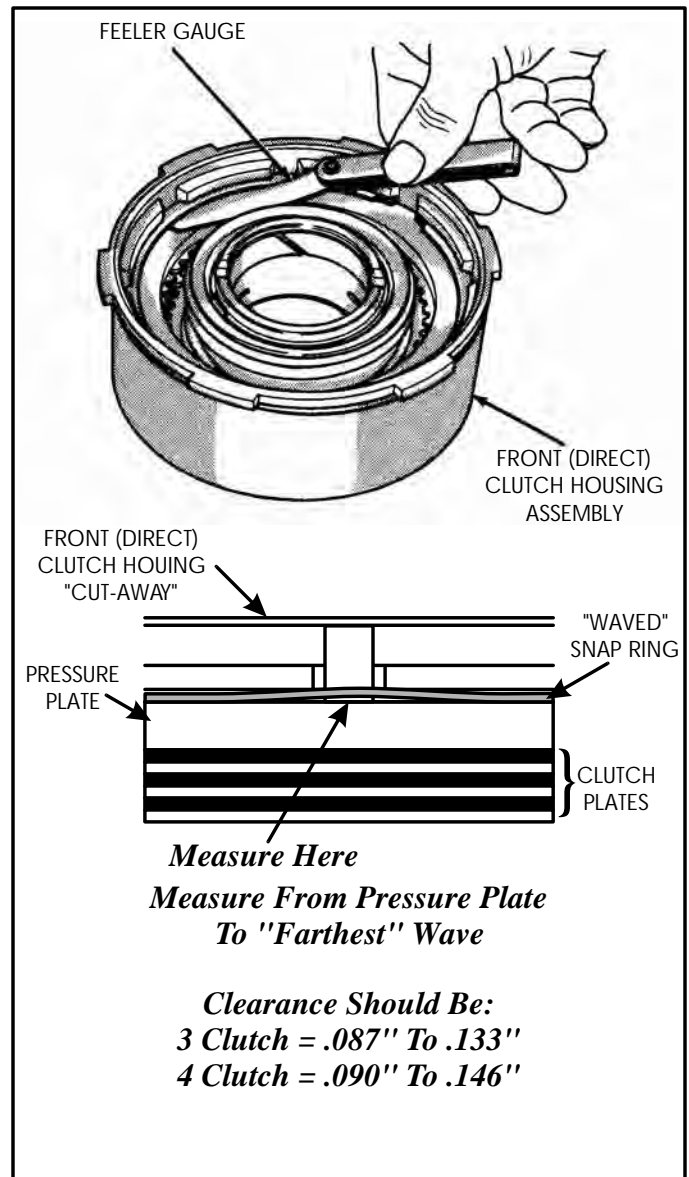

Figure 72
25. Check the piston travel by measuring with a feeler gauge, as shown in Figure 72.
- Note: Measure from pressure plate to "Farthest" Wave (See Figure 72).**